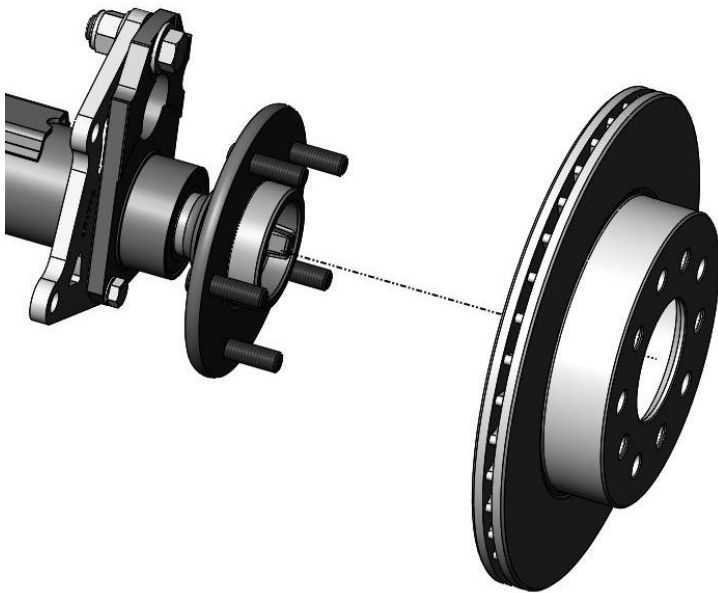
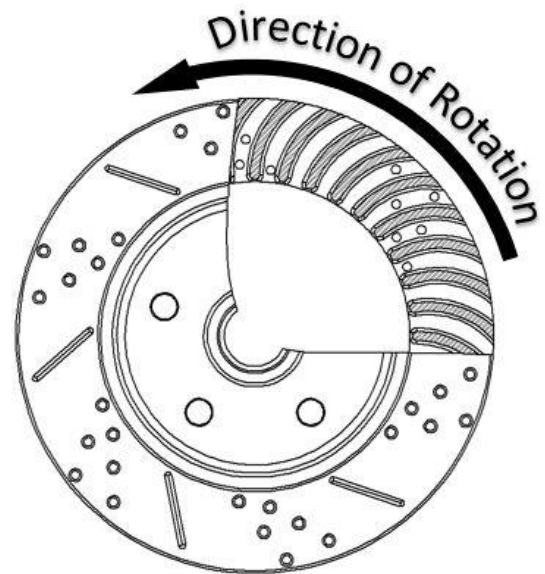

Figure 4a – Rotor Installation
Figure 4b – Rotor Orientation
8. Install the rotor onto the axle flange. Verify that the rotor goes all the way against the axle flange. See Figure 4a for reference. **TIP:** To make caliper installation easier, thread a couple of flatwashers and nuts against the rotor to act as a lug nut and hold everything in place. **IMPORTANT:** If using slotted and drilled rotors, pay close attention to Figure 4b below for proper rotor placement on the driver and passenger side.